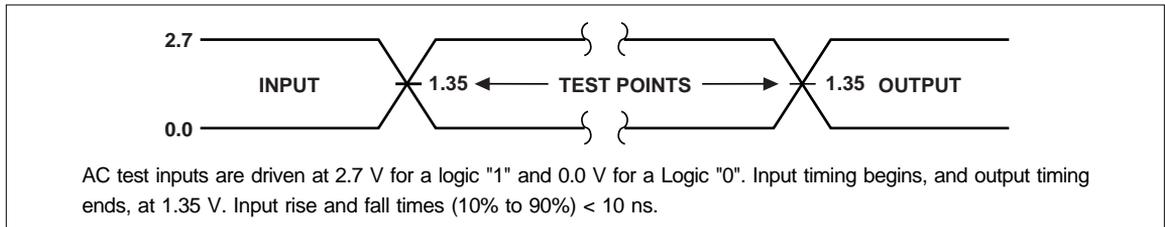
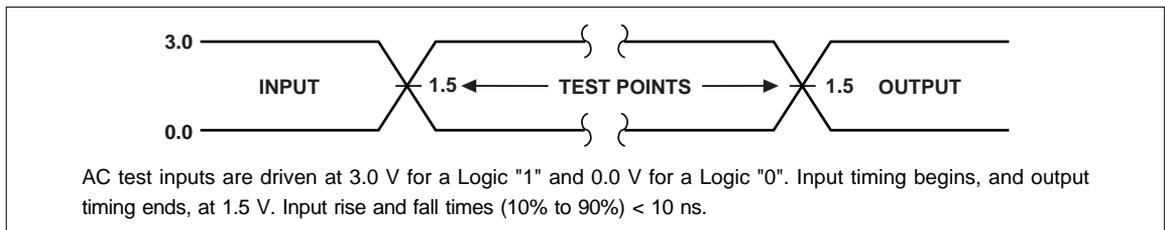

Fig. 9 Transient Input/Output Reference Waveform for Vcc = 2.7 to 3.6 V
Fig. 10 Transient Input/Output Reference Waveform for Vcc = 3.3±0.3 V
1. See AC Input/Output Reference Waveform (Fig. 9 and Fig. 10) for maximum allowable input slew rate.